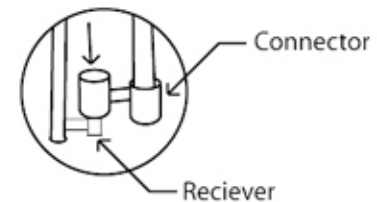

Figure 2c
Step 6: Fasten the uprights to the top of the riser set. Use three 1.50 long bolts (6), six flat washers (9), and three lock nuts (10) to attach the uprights to the riser. Leave fasteners hand-tightened until all uprights are attached. Make sure the connectors have been attached to the receivers on the back legs, as in step 4 (see figure 2c).